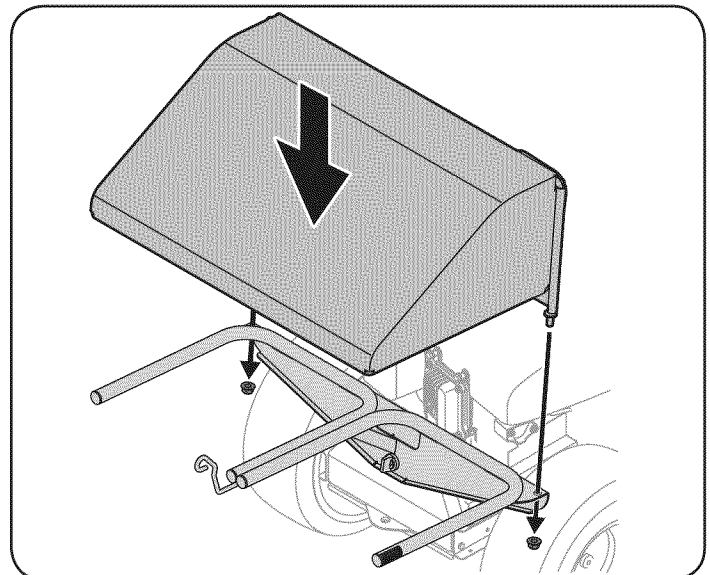

Figure 6
5. Attach the bagger hood over the grass-bag mounting assembly as shown in Figure 6. Align the tabs on the hood into the slots on the grass-bag mounting assembly. Secure the bagger hood using two flange lock nuts (712-04150) included in the same hardware pack.